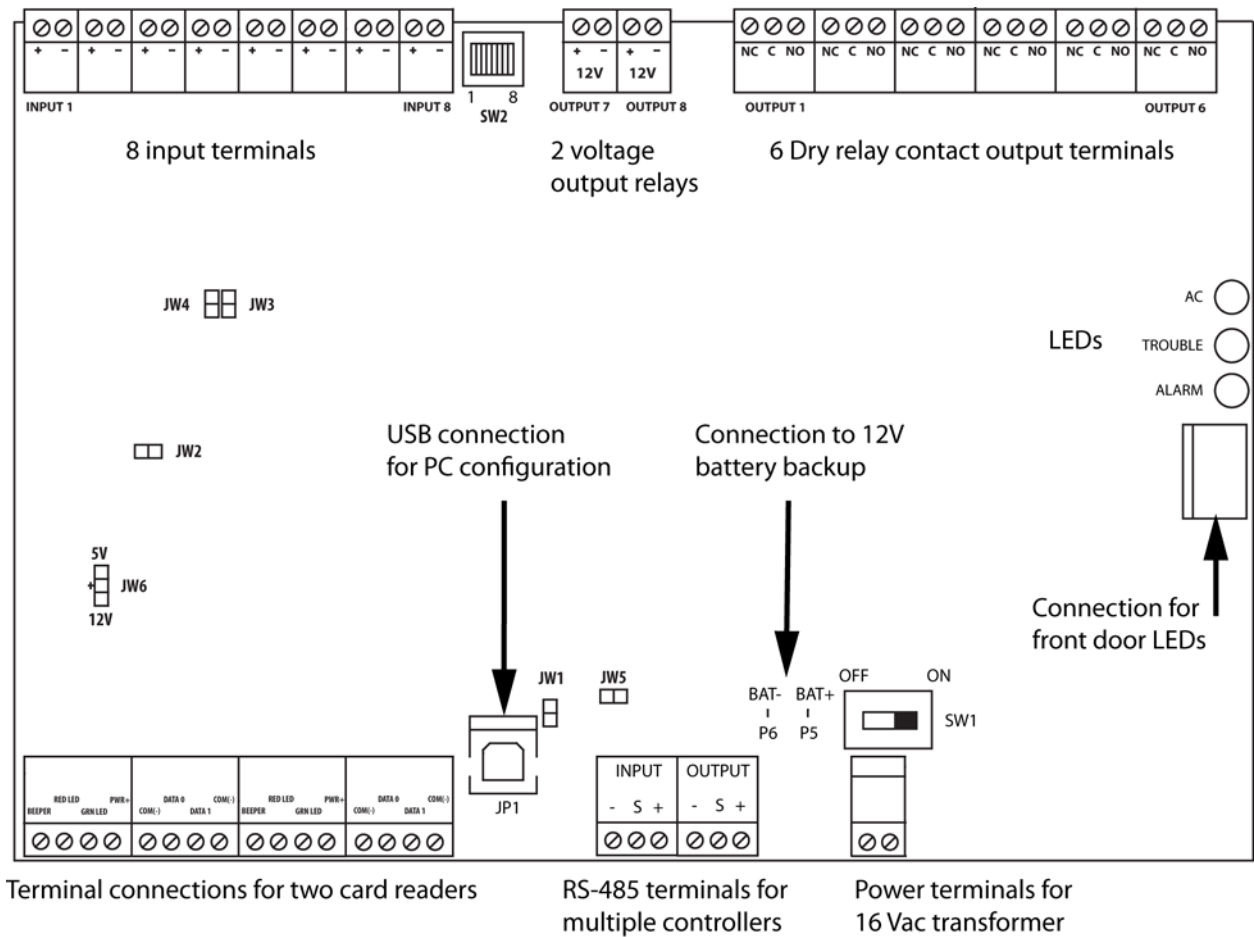

Figure 5. Controller Board Connection Locations
- Modem TX3-MDM (optional) *see Figure 5*
An external PS-4 or PS-4P Plug-in Transformer connects to the 16 Vac terminals. Refer to Figure 5.
There are 8 outputs located on the top right hand corner of the card access controller as shown in Figure 5. Outputs 1 to 6 are on the right side and outputs 7 and 8 are in the middle.